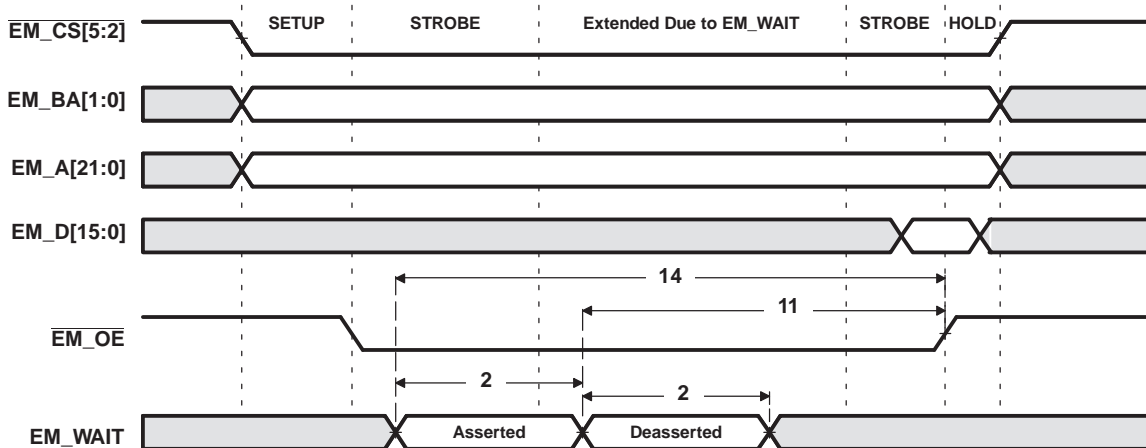
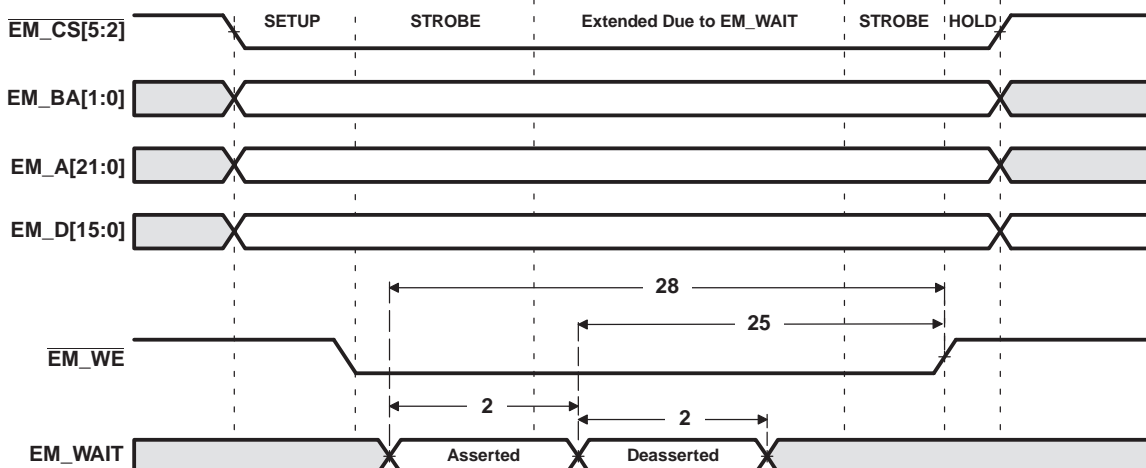

Figure 6-23.  $\overline{EM\_WAIT}$  Read Timing Requirements
Figure 6-24. EM\_WAIT Write Timing Requirements
- (1) E = SYSCLK5 period in ns for EMIFA. For example, when running the DSP CPU at 594 MHz, use E = 10.1 ns.
- (2) Setup before end of STROBE phase (if no extended wait states are inserted) by which EM\_WAIT must be asserted to add extended wait states. Figure 6-23 and Figure 6-24 describe EMIF transactions that include extended wait states inserted during the STROBE phase. However, cycles inserted as part of this extended wait period should not be counted; the 4E requirement is to the start of where the HOLD phase would begin if there were no extended wait cycles.